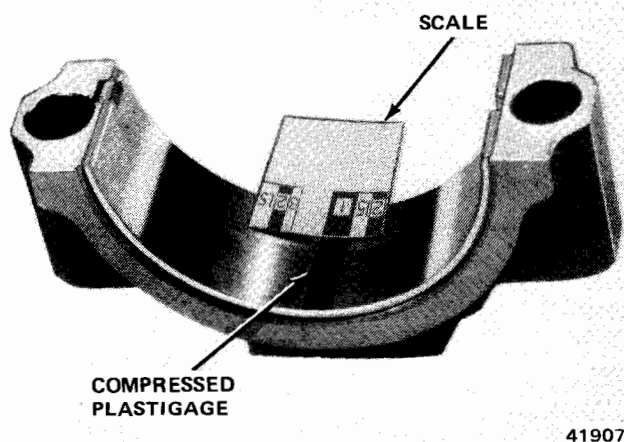

Fig. 1A-37 Bearing Clearance Measurement with Plastigage
- (1) Wipe journal clean.
- (2) Place a strip of Plastigage across full width of lower insert at the center of bearing cap.
- (3) Install bearing cap to connecting rod and tighten retaining nuts to 28 foot-pounds torque.
- (4) Remove bearing cap and determine amount of clearance by measuring the width of the compressed Plastigage with the scale furnished (fig. 1A-37).